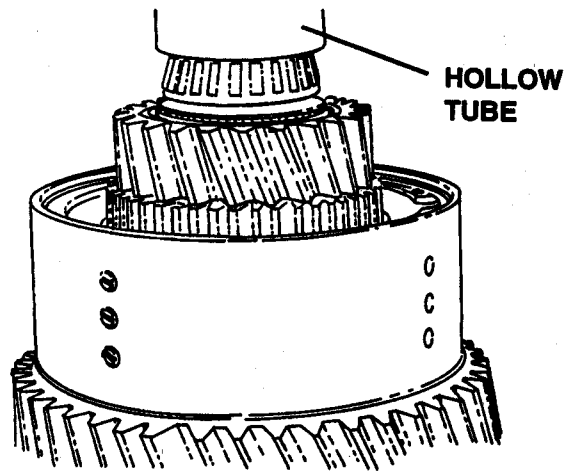

Figure 39.
12. Repeat steps 1 through 11 for the opposite clutch, make sure that the low clutch and taper roller bearing are coated with grease. Fit the bearing using a hollow tube as shown in Figure 39 and then fit the piston ring seal.